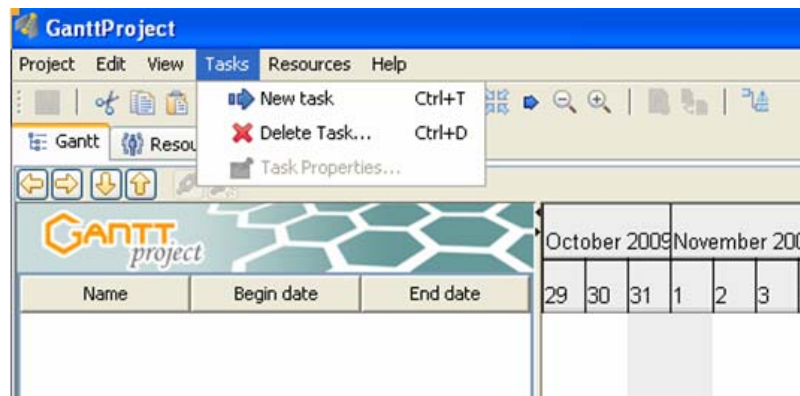

Figure 3.7: Adding a new task.
2. In the tool bar, click the New Task button to add a task to the tasks pane as shown in figure 3.7.